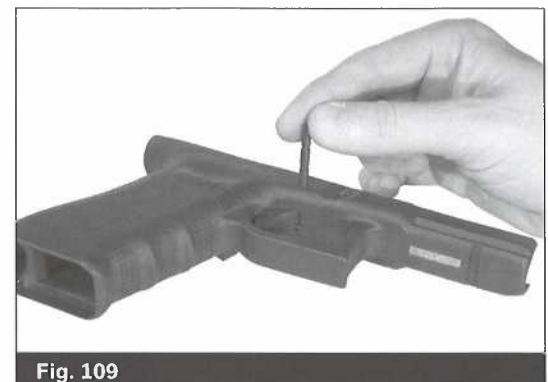

Fig. 109
- While holding the slide stop lever in position, insert the trigger pin from the right. (Fig. 109)